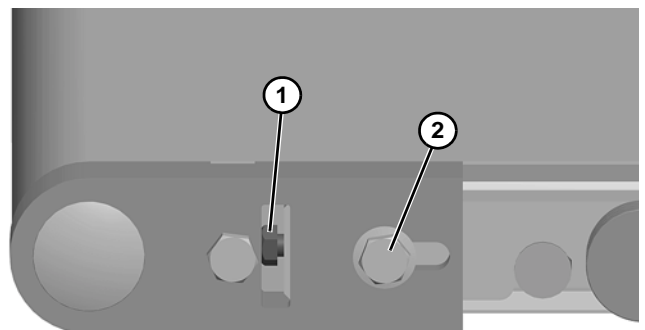

Figure 4
3. Using an M8 wrench, loosen (back out) the M5 screw (**Figure 4, item 1**) on both sides of the conveyor to tension the belt.
4. Tighten the M6 screws (**Figure 4, item 2**) on both sides of the conveyor.
6. If necessary, loosen the M6 screw (**Figure 4, item 2**) and back out the M5 screw (**Figure 4, item 1**) as needed to track the belt.